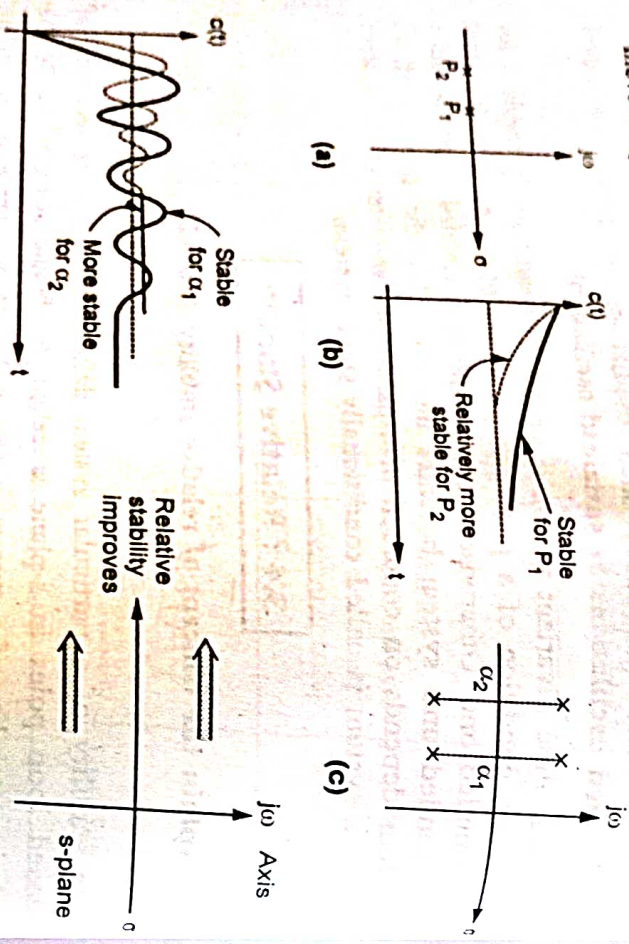

Fig. Q.3.1 Concept of relative stability
- The Fig. Q.3.1 shows the relative stability related to real and pair of complex conjugate closed loop poles.